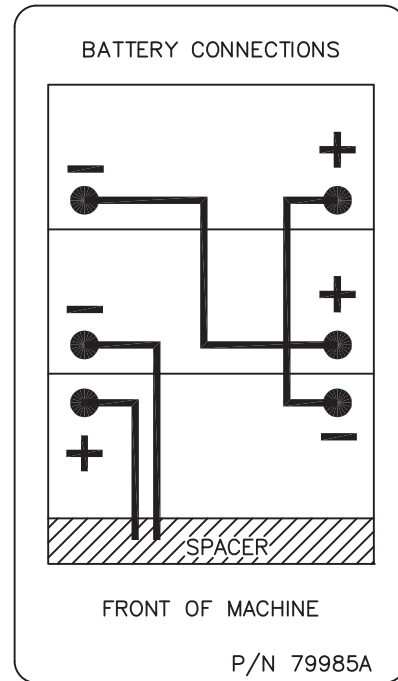

Figure 5
1. Make sure the key switch is in the OFF position (O).
2. Carefully lift the batteries into the battery tray. Arrange as shown in figure 5.
3. Install the battery cables as shown in figure 5, with the terminals marked "P" on the positive battery posts and the terminals marked "N" on the negative batter posts. Position the cables so that the caps can be easily removed when it is necessary to add water to the batteries.